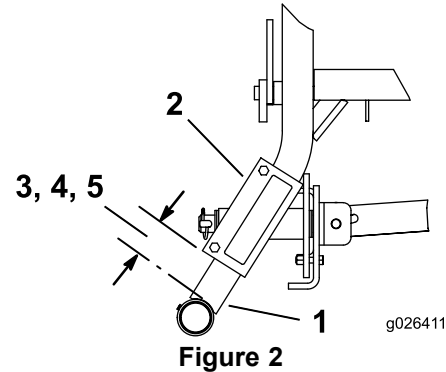
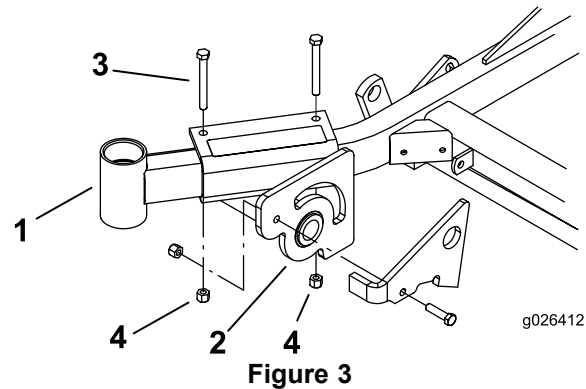

Figure 2
Figure 3
1. Place the hub on the right front frame as shown in Figure 2 and Figure 3.
2. Install the hub assembly the specific distance from the caster housing as shown in Figure 2 and listed below.
3. Install the hub to frame with 2 bolts (3/8 x 3-1/2 inches) and 2 lock nuts (3/8 inch) (Figure 3).